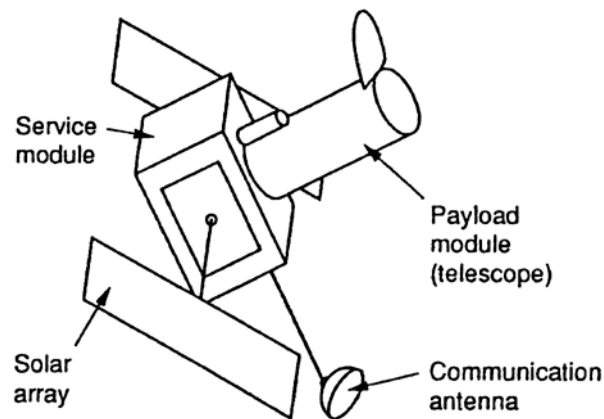

Figure 1. Schematic of space observatory configuration.
12. The proposed configuration of an astronomical observatory spacecraft is shown in Figure 1. It is to be deployed in geostationary Earth orbit (GEO). During the transfer phase to acquire this mission orbit, the spacecraft is rotated rapidly (at ~ 60 rpm) to stabilise the attitude while the rocket motor firings are executed. When on mission orbit, the mission objectives require that the payload be pointed with an accuracy of the order of 1 arcsec for periods of up to 1 hour.